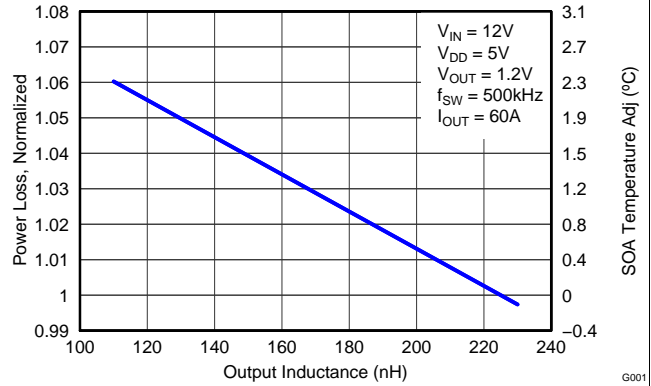

Figure 8. Normalized Power Loss vs Output Inductance
- Normalized Power Loss for output inductor \approx 1.01 (Figure 8)
- SOA adjustment for output inductor \approx 0.5°C (Figure 8)